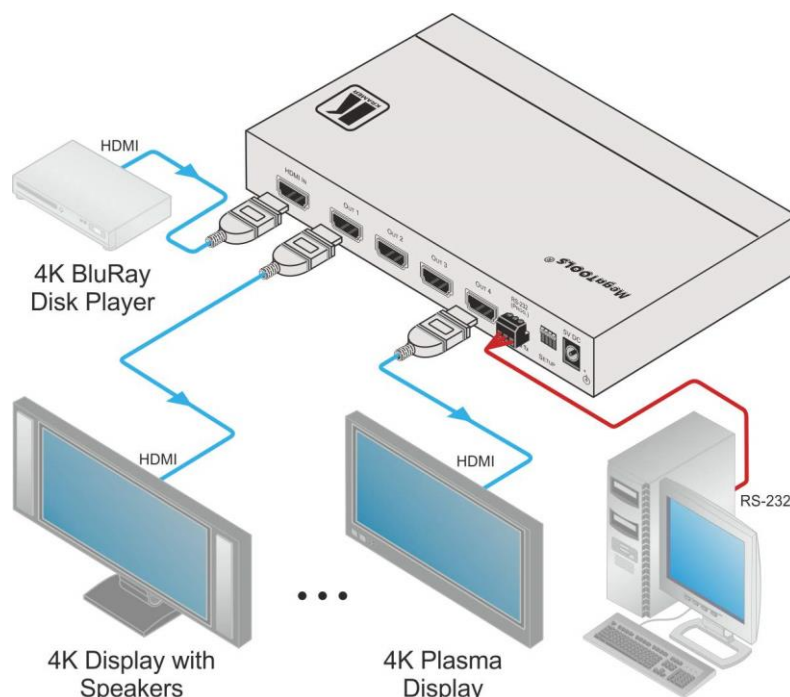

Figure 2: Connecting the VM-4H2 1:4 4K HDR HDMI DA
To connect the **VM-4H2**, as illustrated in the example in Figure 2, do the following:
3. Connect the 5V DC power adapter to the power socket unit and then connect the adapter to the mains electricity (**not shown in Figure 2**).